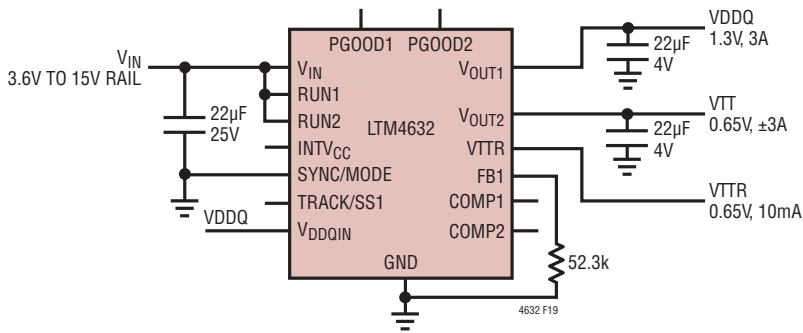

Figure 19. 3.6V to 15V Input, 1.5V/3A VDDQ, 0.75V/±3A VTT and 10mA VTTR Design
**Table 5. Output Voltage Response for Each Regulator Channel vs Component Matrix (Refer to Figure 19)